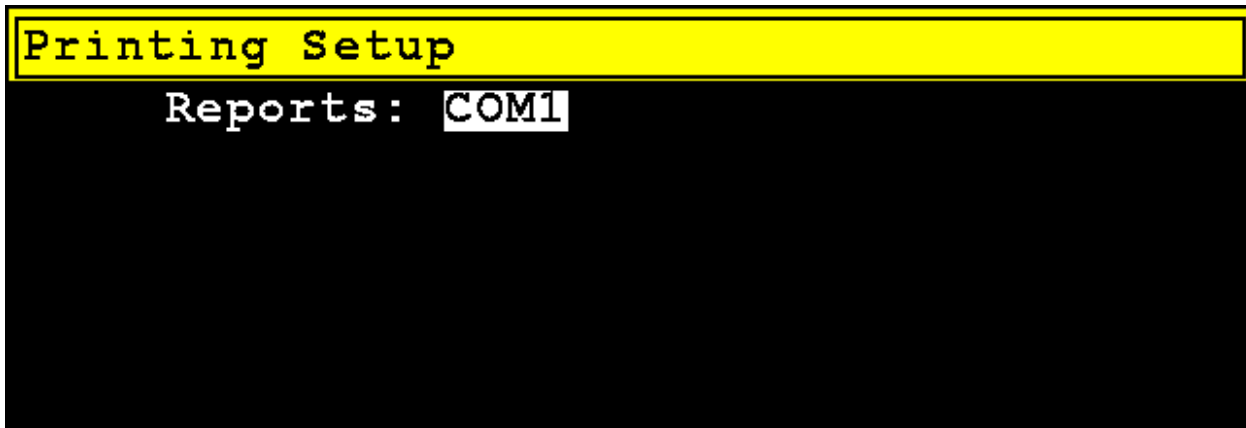

Figure 3: ID/Truck Storage Printing Setup menu
2. Touch the **4. Printing** button or press “4” to access the printing menu (Figure 3).